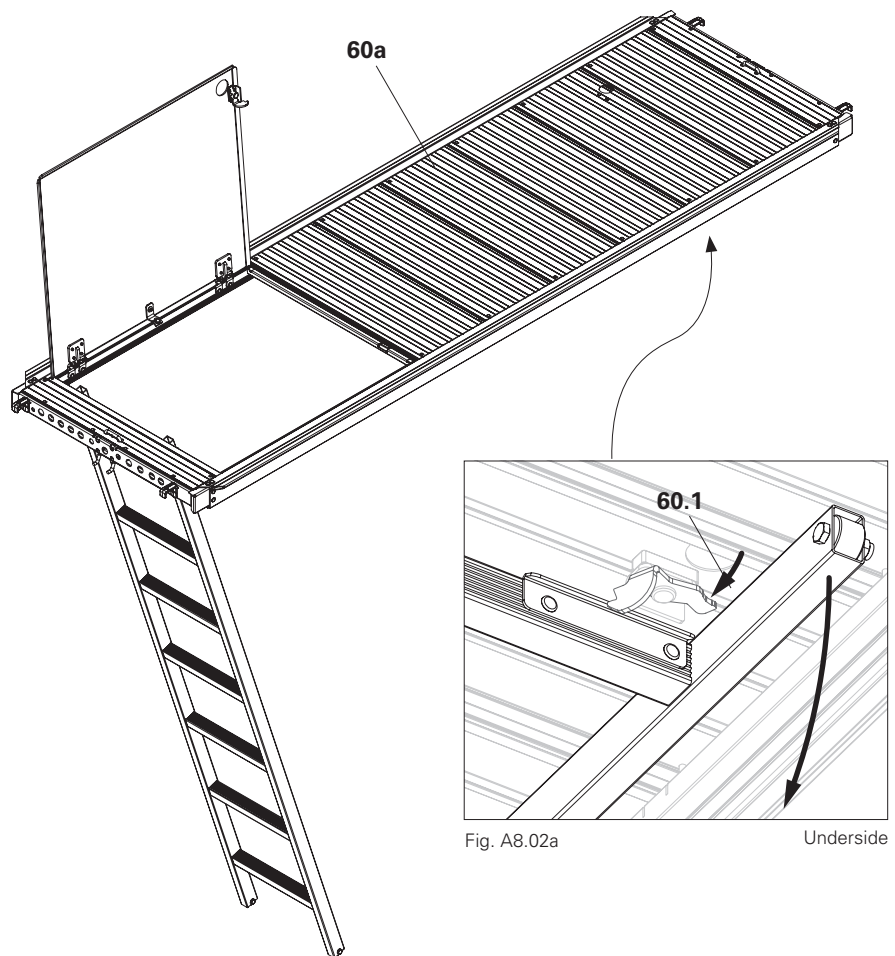

Fig. A8.02a
2. Secure the ladder on the lowest rung and unlatch latch (**60.1**). (Fig. A8.02a)